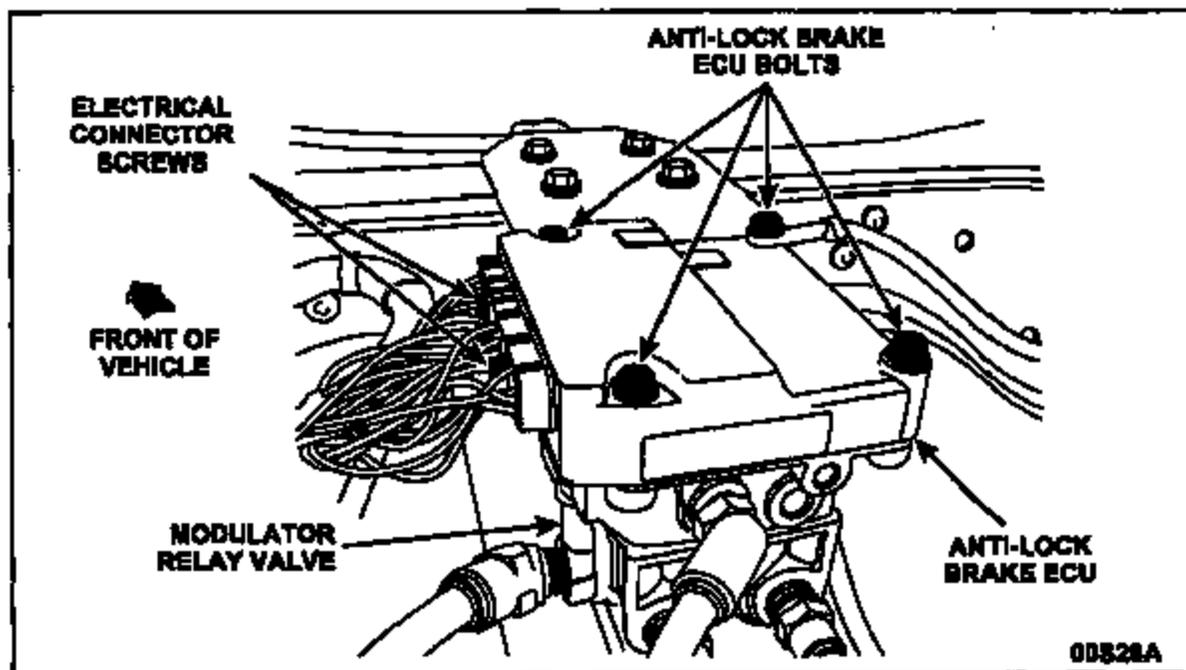

FIGURE 1
4. Remove the bolts securing the anti-lock brake ECU to the modulator relay valve. See Figure 1.